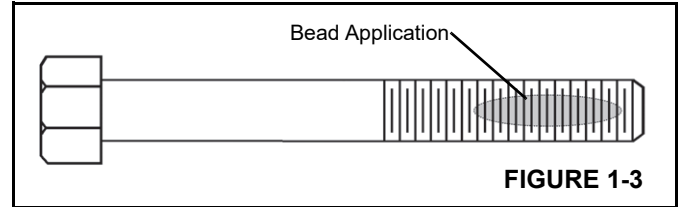

FIGURE 1-3
1. Apply a bead several threads wide in the approximate area of threaded contact (Figure 1-3).
3. After installation, fixturing occurs within thirty (30) minutes.